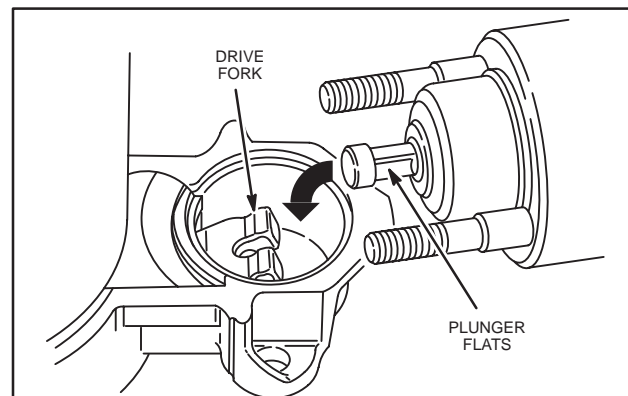

Fig. 51 – Installing Solenoid
4. Engage flats on plunger with fork in drive lever and assemble solenoid to starter, Fig. 51.